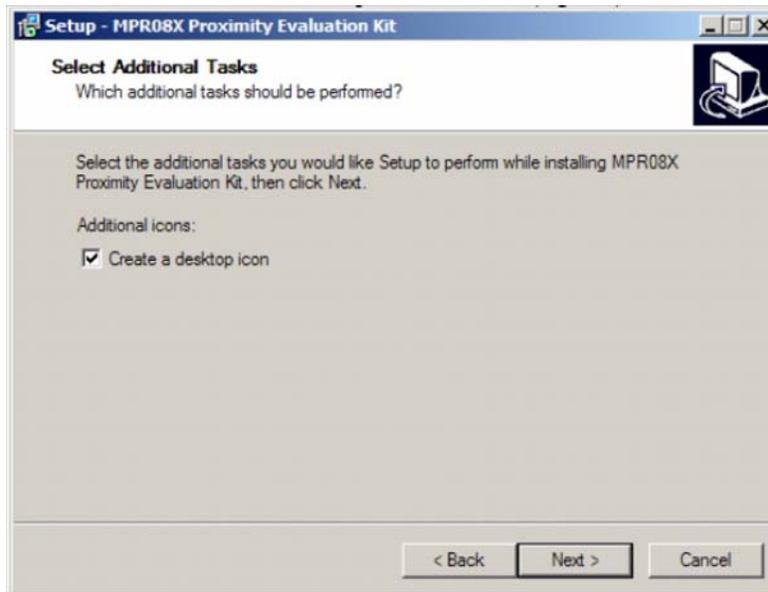

Figure 5. Create a desktop icon
- The user needs to select whether or not they would like a desktop icon. If the user wishes to have a desktop icon, the user should select the check box for the “Create a desktop icon” (Figure 5).